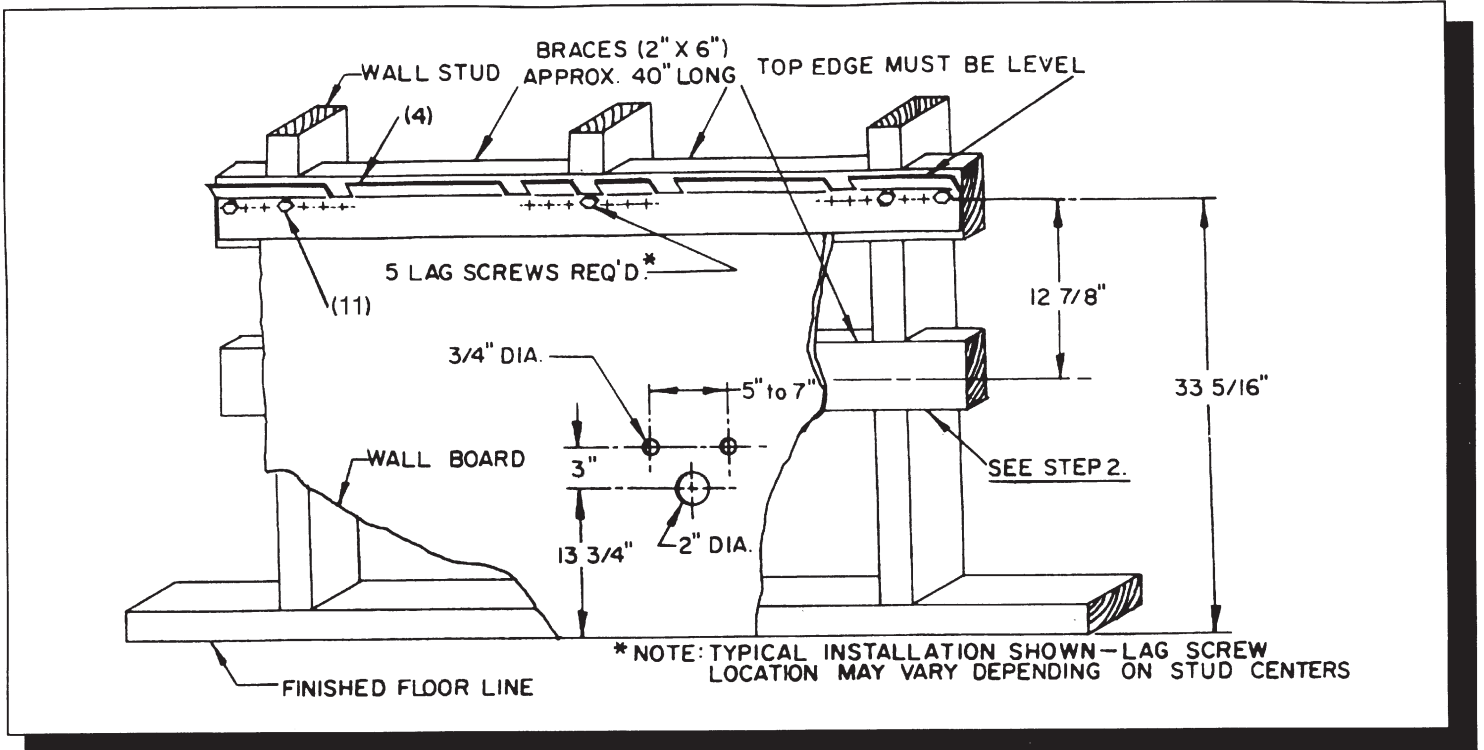

FIGURE 1.
1. Mount Wall Plate (2) at the recommended height shown in Figure 1.
- Place Laundry Tray (1) on wall plate, mark location of Molded Side Filler (2) & (3) mounting tab holes. Remove Laundry Tray and follow drilling / anchoring procedures as outlined in Step 1. See Figure 1.